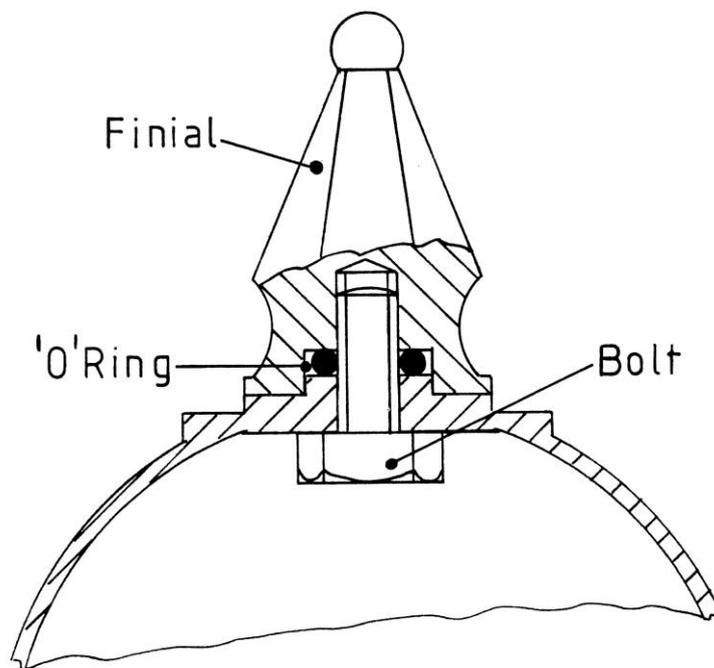

Figure 2, 'O' ring position on lantern heads.
9. **(NR 8 only)** Fit the decorative finials to the top of each lantern lid, ensure the ‘O’ ring is positioned under each finial as shown in Figure 2 on page 4.